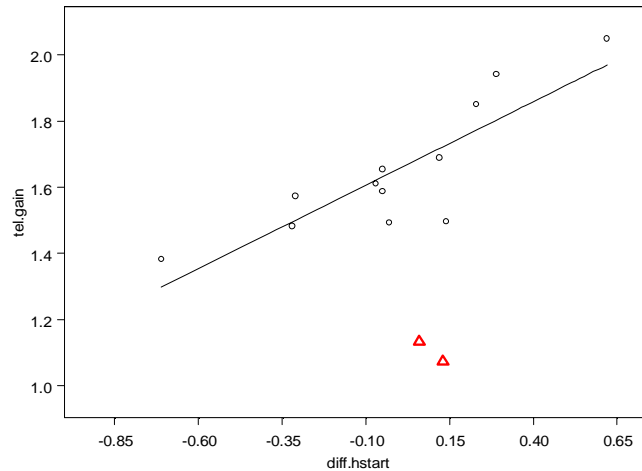

Figure 3.11: Scatter plot with least squares fit (no outliers) and robust LTS lines.
3. With the columns to plot selected, select the graph region, press the SHIFT key, and click the **Robust LTS** button  on the **Plots 2D** palette. The resulting graph, shown in Figure 3.11, reveals that the LS fit with outliers removed and the LTS fit with outliers included are indeed rather close to one another. Notice that the scatter plot now displays the original axis ranges and that the two outliers removed from the LS fit are displayed with the robust LTS line.